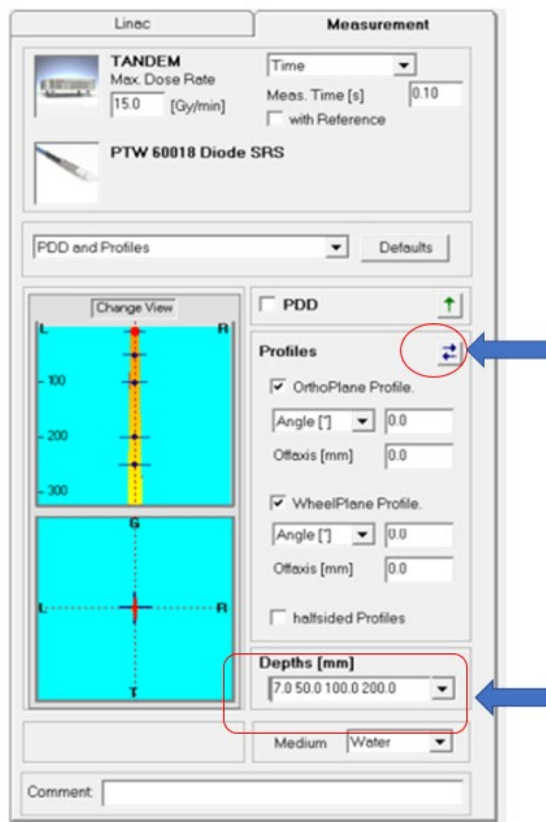

Figure 1-20. OCR Measurement
4. At 25 mm collimator, go to PTW Mephysto, deselect PDD and select **OthoPlane /WheelPlane** on **Profile**. Make changes on the scanning direction with the icon  and make changes on the Depths to D_{\max} (7.0 mm), 50, 100, 200, and 250 mm. Turn on the beam for 50,000 MU from the TDS Linac Calibration and start PTW scan right after beam on. Typical setup and plots are shown as below (see Figures 1-20 and 1-21).